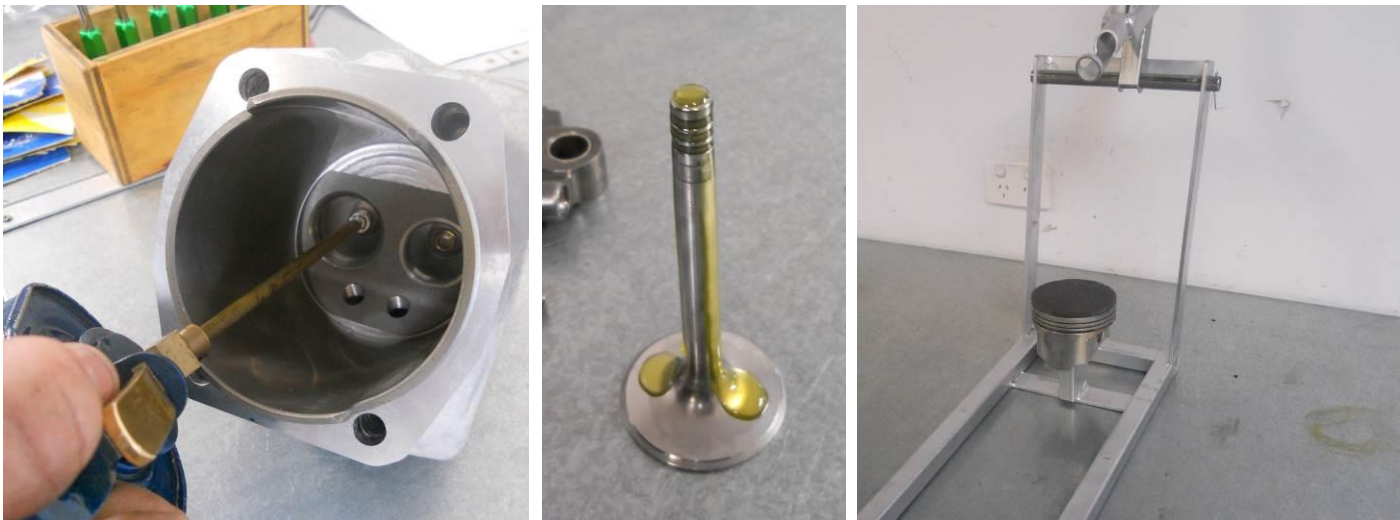

Figure 55 - Lubricating valves, seats and guides
- Insert cylinder onto a valve spring compressing device such as that shown below in Figure 55. The valve spring compressing tool uses a piston with rubber lining to hold the valves in place while the valve springs are compressed.